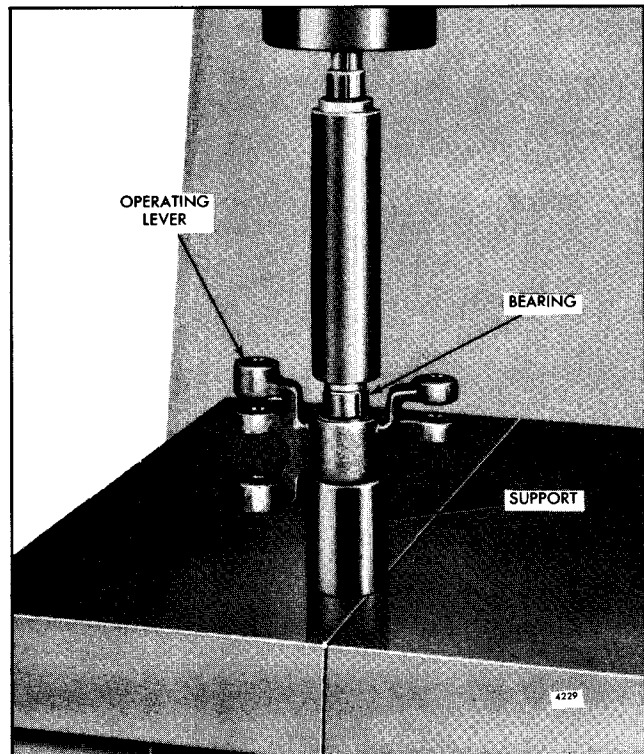

Fig. 11 - Installing Control Link Operating Lever Bearings in Lever using Tool J 21068
- j. If removed, place the control link operating lever on the bed of an arbor press with a steel support under the bearing bore. Lubricate the bearing with engine oil and start the bearing, numbered end up, straight into the bore of the lever. Insert the pilot end of installer J 21068 in the bearing and press the bearing into the lever until it is flush with the top surface of the lever (Fig. 11). Reverse the lever on the press and install the second bearing in the same manner.